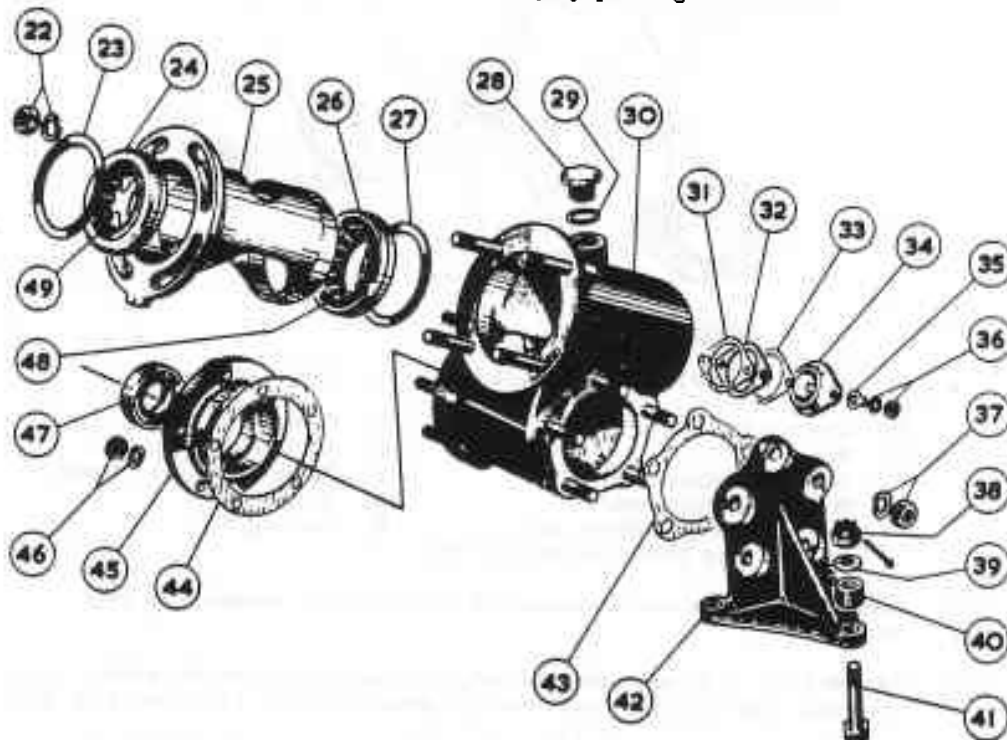
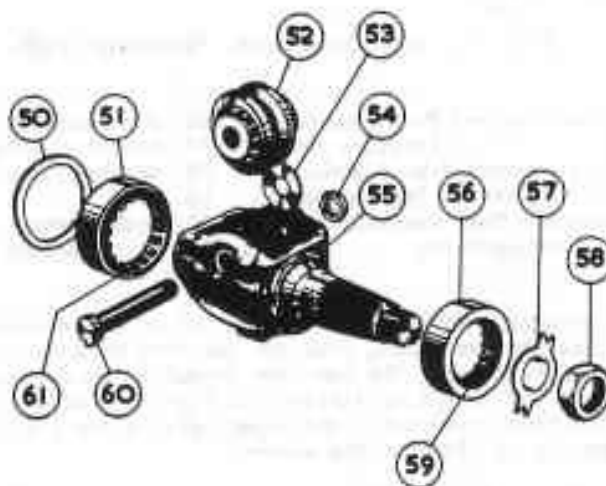
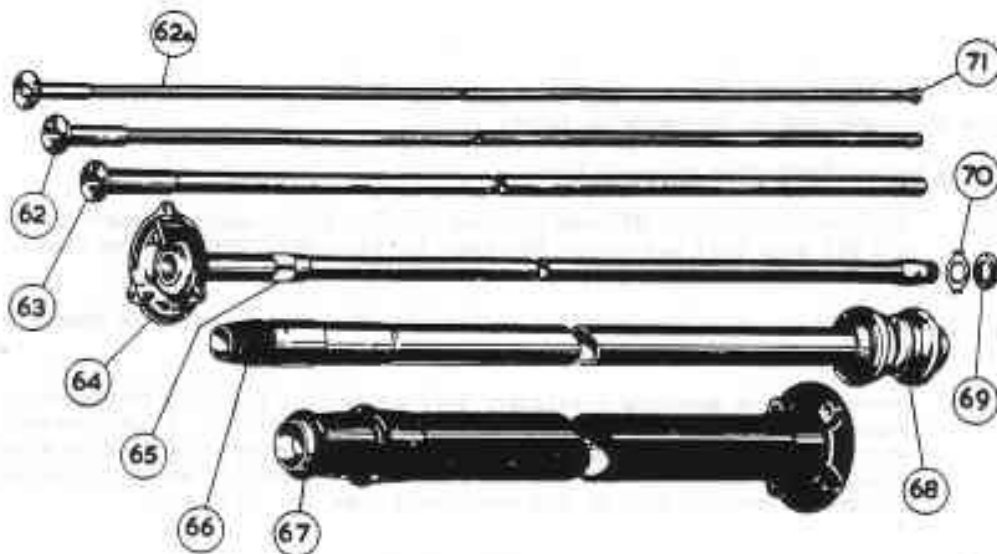

FIG. H5. STEERING BOX, "EXPLODED VIEW".
FIG. H6. ROCKING SHAFT ASSEMBLY, "EXPLODED" VIEW.
FIG. H7. STEERING COLUMN, "EXPLODED" VIEW.
- (vi) Disconnect steering box complete with its bracket (42, Fig. H5).
Leakage or wear of the oil seal (47, Fig. H5) will be indicated by oil inside the cover and on the pendulum lever.
- (i) Mark cover (45, Fig. H5) and steering box for re-assembly. Remove cover and oil seal (47) and roller bearing (59, Fig. H6). Rocking Shaft can be removed with roller and cage assembly (55).
- (ii) Remove nuts retaining steering column (67, Fig. H7) to box, and remove steering column.
- (iii) Remove the nut securing stationary tube guide (34, Fig. H5) to the box, remove the guide with an aluminium drift or screwdriver. A joint washer is fitted between guide and box. An adjusting washer/s (32) and an extra joint washer is fitted between the guide and the box (as shown in Fig. H5) to control the end play of the stationary tube (64, Fig. H7).
- (iv) Using an aluminium drift on the bottom end of the steering cam tube assembly, at the same time, pull the cam tube by hand to withdraw it from the steering box. The cam tube assembly, on removal from the box, may withdraw the adjusting sleeve (25, Fig. H5), if so, remove it by tapping its upper face until the upper bearing cup (24) of the taper roller bearing is clear of the sleeve.
It should only be necessary to remove the cam roller assembly (52, Fig. H6) from the rocking shaft in the event of wear, end float of the assembly in the rocker shaft, or a flat on the cam track due to shock.
- (i) Determine the thickness of the adjusting washer (53, Fig. H6) to ensure contact of the inner end faces of the two inner races of the cam roller assembly, to give the necessary pre-loading on the roller.
The inner race of the cam roller is in two halves, (52, Fig. H6) held together by a retaining ring. When the inner faces of the two halves of the inner race are brought into contact, this will give a pre-load on the roller of 2 to 8 ounces at a radius of 3" the roller will be a little stiff to turn by hand. This pre-load is determined by the makers and cannot be altered.
- (ii) Before fitting cam roller assembly to rocking shaft, place on bolt (60, Fig. H6), a temporary distance piece $\frac{7}{16}$ " thick by about $\frac{11}{16}$ " outside diameter by $\frac{7}{16}$ " inside diameter, or failing this, suitable washers, to compensate for the thickness of the walls of the rocking shaft. Pass the bolt through the inner races and then tighten up to bring into contact the inner faces of the two halves of the inner race.
- (i) Place one of the two roller and cage assemblies (59 or 61, Fig. H6) on to the bearing cup (51), with the bearing cup in the steering box and drop the rocking shaft into position in the box. Place the other roller and cage assembly on the rocking shaft. Place the cover with bearing cup (56) and oil seal over the splined end of the rocking shaft, with markings in line. Fit spring washers to the three short studs and temporary additional washers to the two long studs, and tighten up.
- (iii) Remove bracket (42), joint washer (43) Fig. H5, and adjusting washer/s (50, Fig. H6).
Place adjusting washer/s against the outer face of the bearing cup (51, Fig. H6). Fit a new joint washer (43) and refit the bracket (42) to the steering box with markings in line and re-check the pre-load.
- (i) Should the cam tube assembly have withdrawn with it the adjusting sleeve (25, Fig. H5), proceed as follows:-
- (a) Grease the two outer diameters of the adjusting sleeve (25) and enter it into position in the steering box, so that the two faces make contact. Grease the original lower adjusting washer (27) and with the steering box in a vertical position, place in position in the bottom of the box. If two adjusting washers were fitted, the thinner of the two washers must be fitted adjacent to the lower face of the lower bearing cup (26), if the thinner washer was fitted behind the thicker washer, there would be a risk of it being trapped behind the gap which exists between the inner end of the adjusting sleeve and the lower inner end of the steering box.
- (b) Fit the lower bearing cup (26) in position against the adjusting washer/s.
- (ii) Place one of the two roller and cage assemblies (48 or 49) on the lower bearing cup, place cam tube assembly on the roller bearing. Place the other roller and cage assembly on to the cam, and push or tap the other bearing cup (24) squarely into position in the adjusting sleeve and on to the roller bearing. Select an adjusting washer/s (23), too thick to enable the flange of the steering column to be pulled right down on to the adjusting sleeve. Place the adjusting washer/s against the outer face of the upper bearing cup (24) and then place steering column in position, nip up the steering column retaining nuts sufficiently to make the cam tube moderately stiff to turn by hand before the steering wheel is slipped on.
- (iv) Temporarily refit rocking shaft to steering box and secure in position by refitting the cover (45, Fig. H5).
The tightest meshed position extends over possibly half a turn of the steering wheel. By rotating the steering wheel, determine how much it has to be turned to move it from the straight ahead position to the centre of the tightest meshed position. If the tightest meshed position is to the right of the straight ahead position, a thinner adjusting washer/s (27, Fig. H5) should be fitted to the lower roller bearing; if to the left, then a thicker washer is required. If two washers are fitted, the thinner must be fitted against the lower face of the bearing cup. The washer/s should be greased to keep them in position against the cup during erection. To estimate the thickness of the washer required, a change of 0.007" moves the tight place along half a turn of the steering wheel. When the centre of the tightest meshed place is at the straight ahead position, i.e. cam tube assembly keyway at its lowest point, and rocking shaft in central position, adjust the pre-load on the cam bearings.